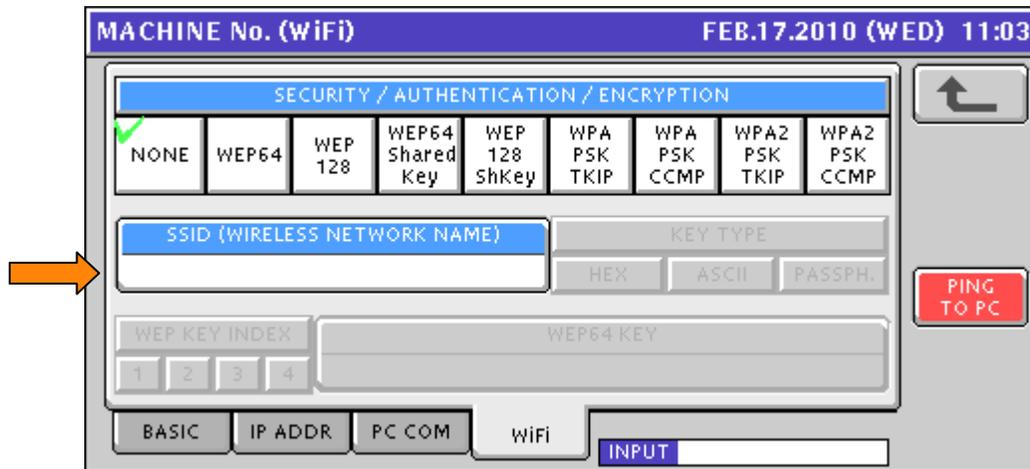

Figure 5.1. Initial WiFi (Wireless) Configuration Screen
IMPORTANT: The WiFi settings are stored in the RF Card. Clearing the memory or updating firmware on the scale does not affect the RF settings on the card. Therefore, it is possible for a scale to communicate when the WiFi settings screen is empty (figure 5.1). Also, if the WiFi settings have not been properly downloaded to the RF Card the scale may not communicate even when the settings appear correct.
5. Select the **WiFi** tab. See Figure 5.1.
6. Press the **SSID (Wireless Network Name)** field. See Figure 5.1.